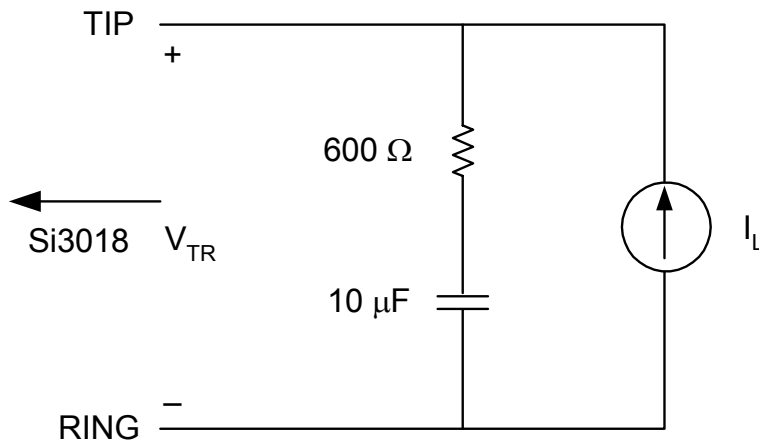

Figure 1. Test Circuit for Loop Characteristics
($V_D = 3.0$ to 3.6 V, $T_A = 0$ to 70 °C for K-Grade, see Figure 1)
2. Measured at TIP and RING with 600 Ω termination at 1 kHz, as shown in Figure 1.